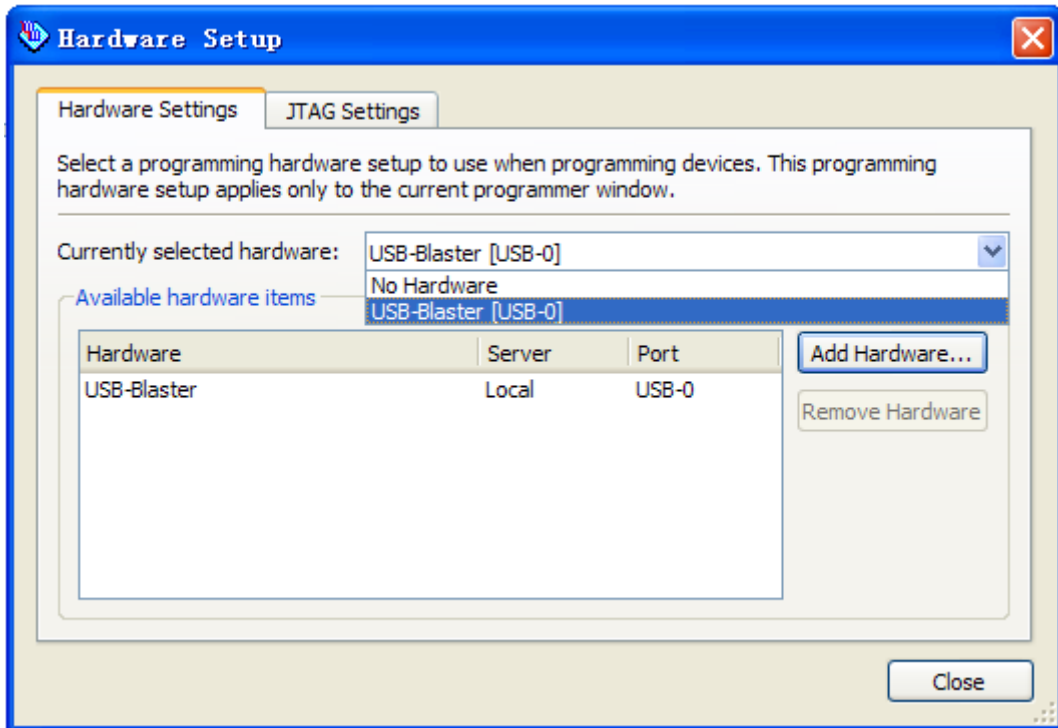

Figure 7-53 Hardware Setup Window
12. Select USB-Blaster from the currently selected hardware drop-down list box, as shown in **Figure 7-53**.